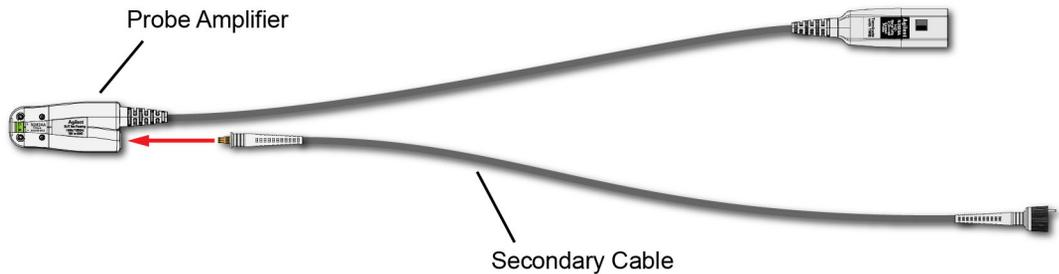

Figure 7 Connecting the N2820A's Secondary Cable
- Gently snap the secondary cable into the probe amplifier as shown in Figure 7.